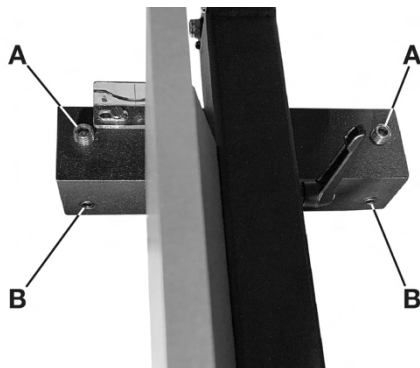

Figure 5-25
2. If adjustment is needed, turn one of the back adjustment screws (B, Figure 5-25) to turn fence in line with miter slot.
3. Verify that fence, top-to-bottom, lies flat against side of blade. If it does not, adjust the set screws (A, Figure 5-25) until fence is parallel to blade along the vertical length of fence.